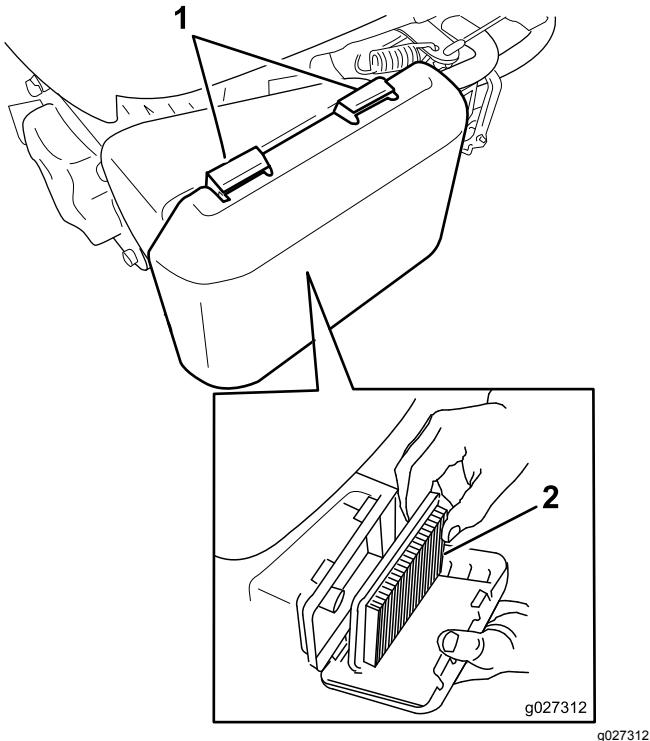

Figure 22
2. Press down on the latch tabs on top of the air-filter cover (Figure 22).